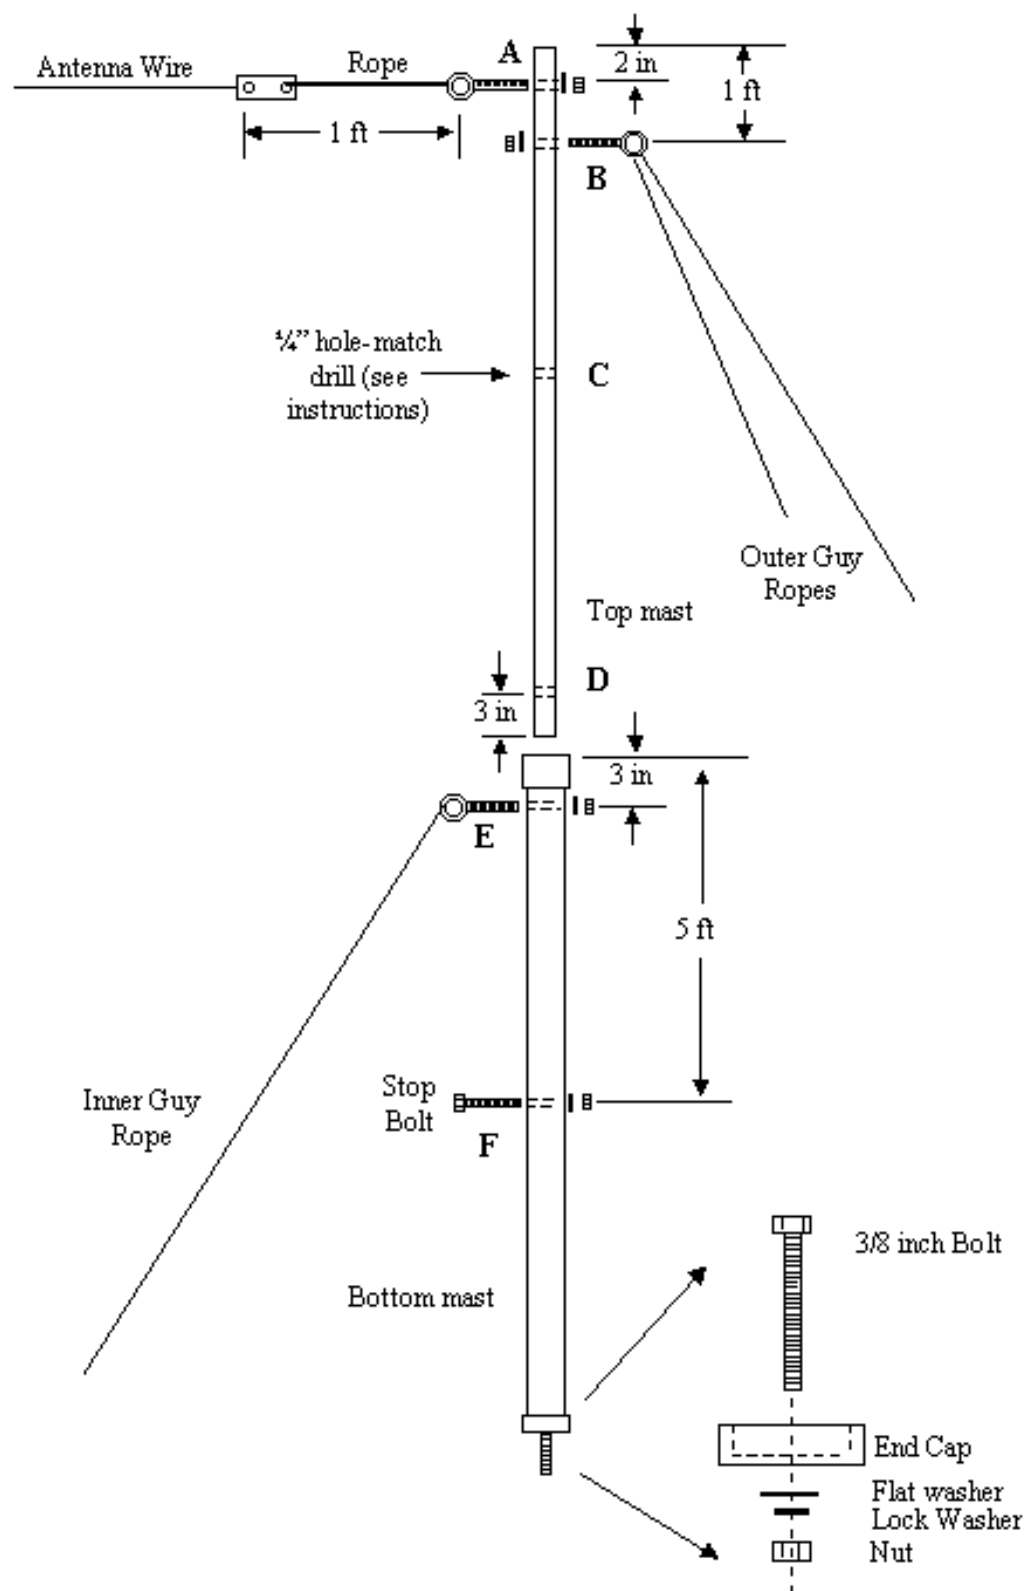

Figure 6.2. PVC Mast Assembly.
- A. *For the PVC mast installation refer to Figures 6.2 and 6.3.* Cut 8 ropes to 24-feet. Attach 2 ropes to each of the eyebolts at the 19 ft level (hole B). Cut 4 ropes to 19-feet and attach each to an eyebolt at the 9-foot 9-inch level (holes D/E).